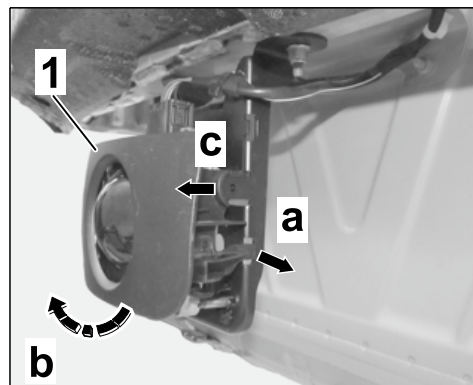

Figure 6
- 1.8.1 Release trim cover  $\Rightarrow$  Figure 6
-1- at the left and right  $\Rightarrow$  Figure 6
-arrow a- and swivel it up  $\Rightarrow$  Figure 6
left/right  $\Rightarrow$  Figure 6 -arrow c-